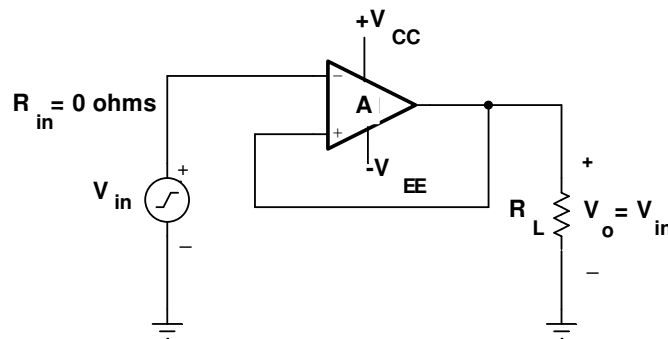

Fig. 83.2
- (ii) **Unity gain amplifier:** When the non-inverting amplifier is configured for unity gain, it is called a voltage follower because the output voltage is equal to and in phase with the input. In other words, in the voltage follower the output follows the input. The unity gain amplifier using non-inverting op-amp configuration is shown in fig. 83.2. In this circuit, the input voltage is fed to the non-inverting terminal and all the output voltage is fed back into the inverting terminal of the op-amp.